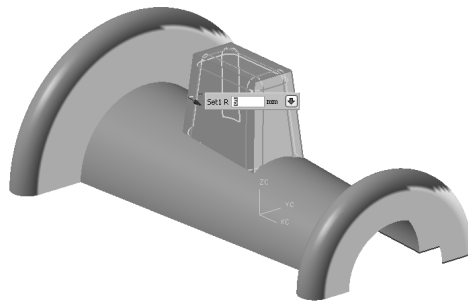

Figure 11-101 The preview of the fillets displayed after selecting the edges
2. Select the edges of the surface, as shown in Figure 11-101. Enter the fillet radius value as **5** in the **Radius 1** edit box.